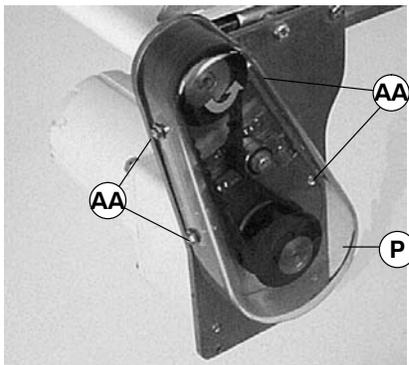

Figure 20
1. Loosen four screws (AA of Figure 20) and remove cover (P).
NOTE: Do not over-tighten screws (AA of Figure 20).
6. Install cover (P of Figure 20) and tighten four screws (AA) to 35 in-lb (4 Nm).